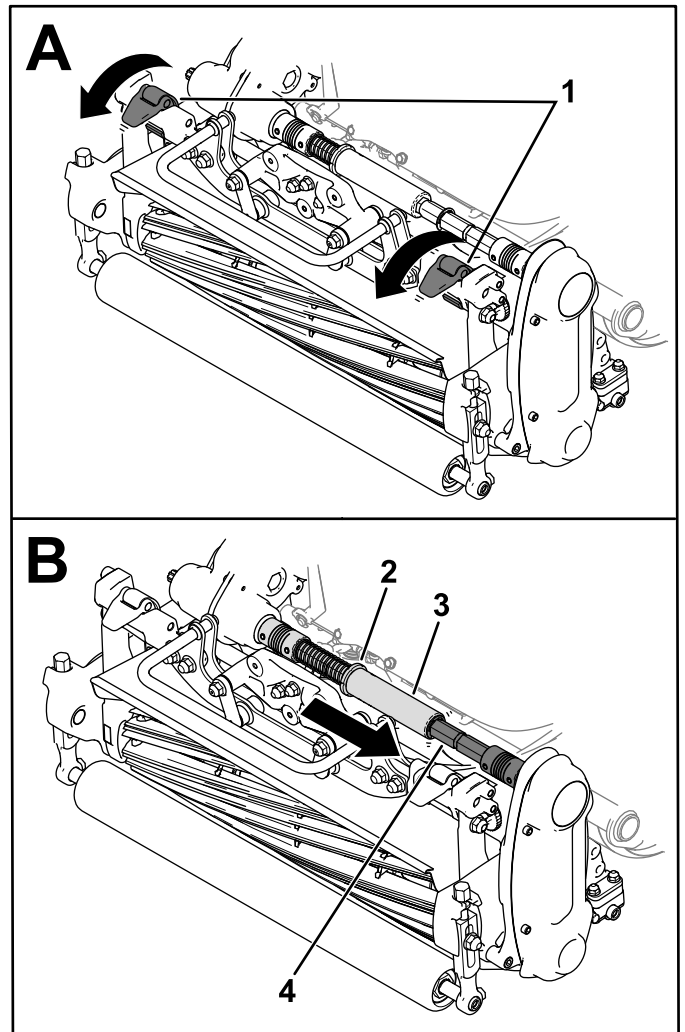

Figure 27
3. Move the suspension latches down to secure the cutting unit to the machine (Figure 27).
4. Move the collar out of the transmission-coupler-shaft groove and insert the hex tube into the cutting-unit coupler shaft (Figure 27).